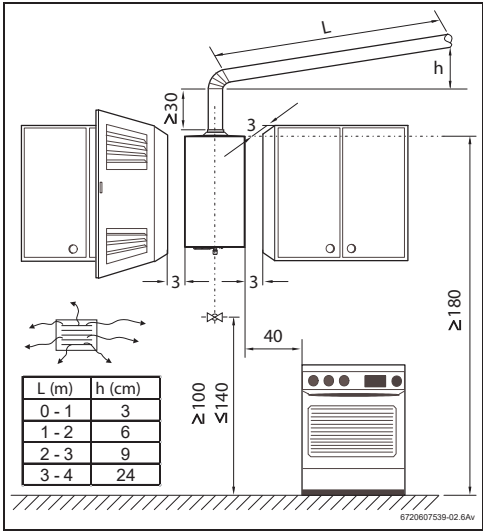

Fig. 11 Minimum clearances
- Respect the minimum installation clearances indicated in Fig. 11.